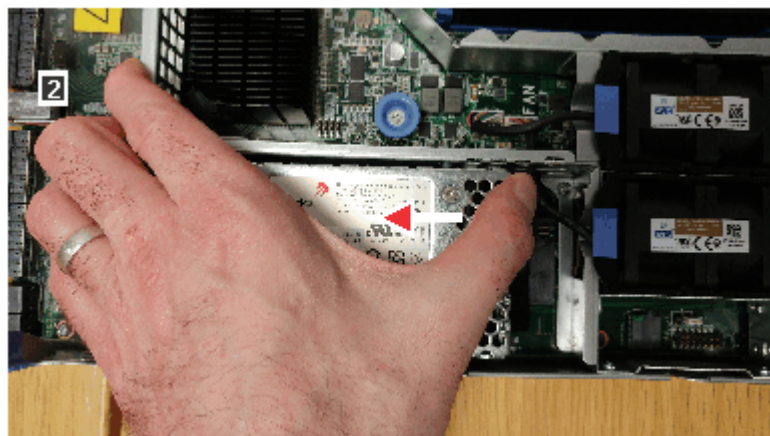

Figure 79. Sliding the node battery out of its position
7. Slide the node battery toward the latch until it stops, as shown in Figure 79 on page 128.